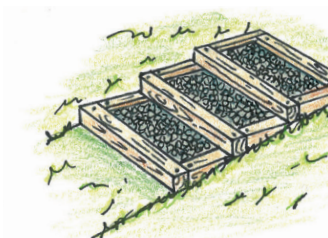

Figure 6
- Fill each step with  $\frac{3}{4}$ " crushed stone or pea stone until it is about 1" below the top of the timber (Figure 6).